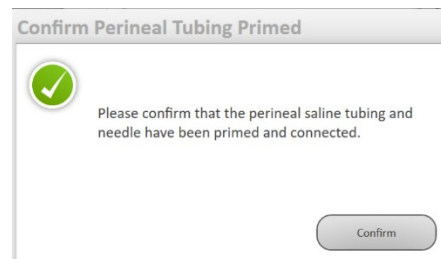

Figure 11-19: Confirm Perineal Tubing Primed
5. When the Pre-Treatment Vapor Cycle is complete, release the **Vapor Delivery Button (A)**. Confirm that there is no dripping from the drip chamber. If there is dripping, check that connections to the Auto-Refill Syringe are tight and do not proceed until dripping is resolved.
6. When the Pre-Treatment Vapor Cycle is complete, the screen will prompt: “Please confirm perineal tubing and needle have been primed and connected.” (**Figure 11-19**).